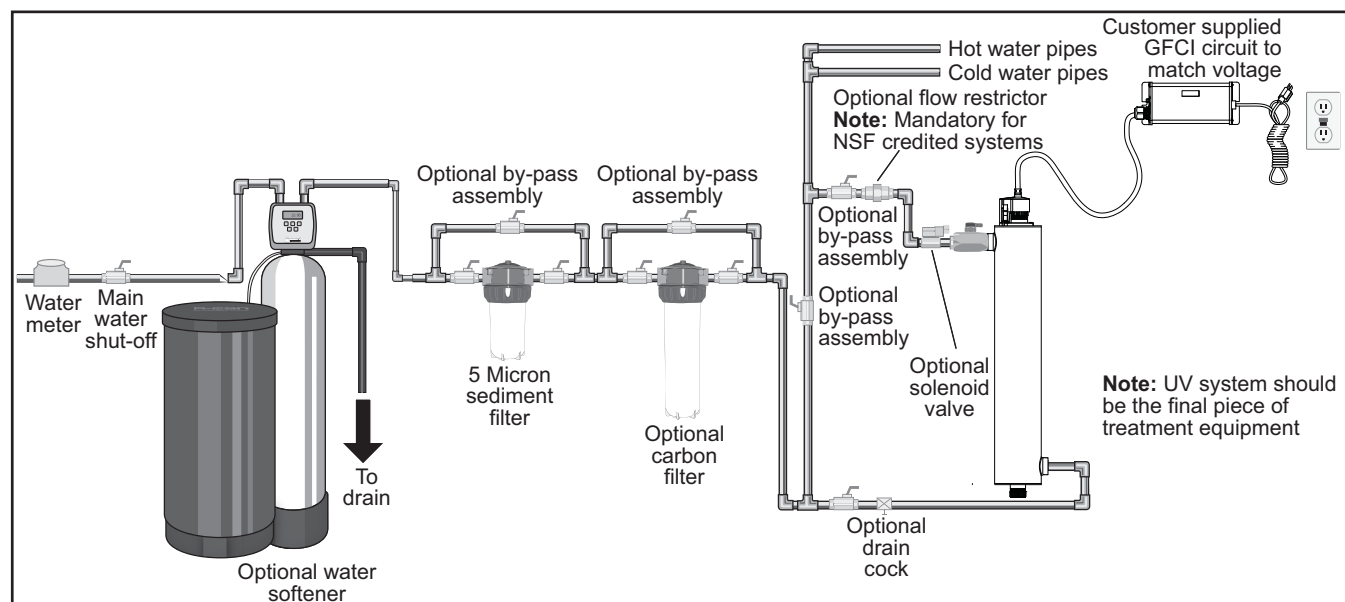

Figure 2 Disinfection System
1. Figure 2 shows the installation of a typical disinfection system and the related components that may be used for the installation. The use of a by-pass assembly is recommended in case the system requires "off-line" maintenance. In this case, note the system requires a supplementary disinfection for the distribution system if any water is used during by-pass condition. In addition, during by-pass, the water will NOT be disinfected and a "DO NOT CONSUME THE WATER" tag should be physically installed on the by-pass assembly until such time as the system is sanitized and returned to service. For more information, refer to Section 3.2. If the water is to be consumed while the system is off-line, the water must be boiled for twenty minutes prior to consumption.